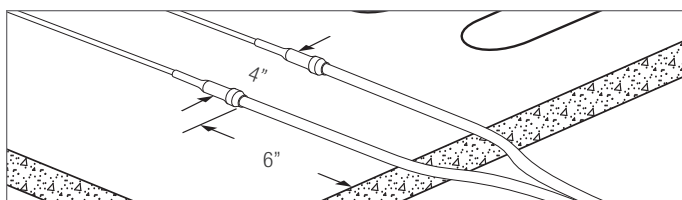

FIGURE 2.51: Cold Lead Positioning
8. Space second hot/cold joint at least 4" (100mm) away from first hot/cold joint and 6" (150mm) in from the edge of the slab. See Figure 2.51.